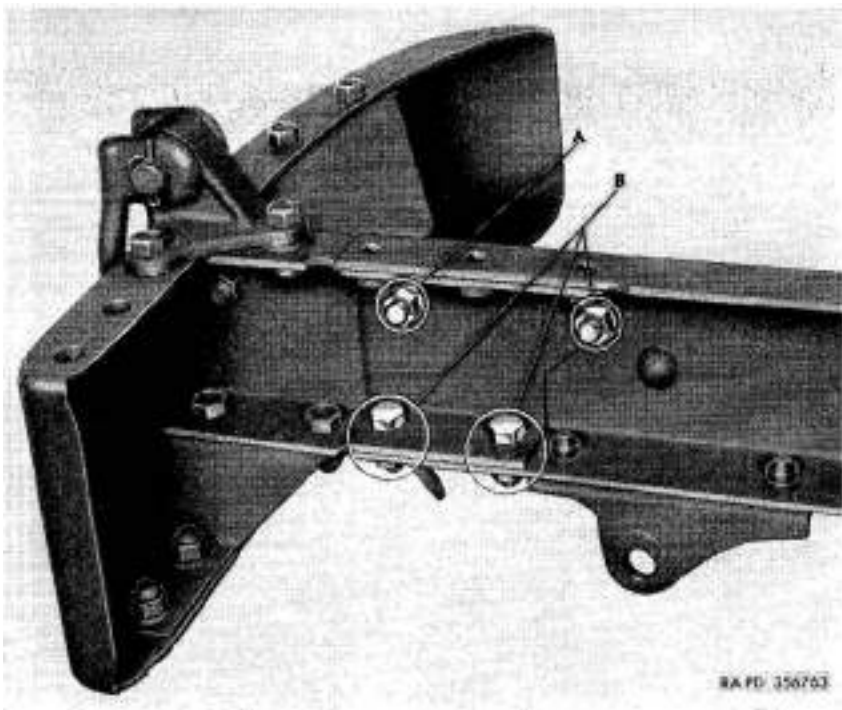

Figure 32. Front bumper assembly (w/winch) disconnect points.
- (1) Remove front bumper and lifting shackle assemblies (vehicles without winch) (five nuts, lock washers, plain washers, and cap screws, each side).
- (2) Remove right and left front bumpers complete with frame side rail extensions and lifting shackle assemblies (vehicles with winch) (four nuts, lock washers, and cap screws, each side) (A and B, *fig. 32*).
t. *Install Front Bumper* (fig. 32).
- (1) Install front bumper and lifting shackle assemblies (vehicles without winch) (four $\frac{1}{2}$ -20NF x $1\frac{1}{8}$ cap screws at side and bottom of frame side rails and one $\frac{1}{2}$ -20NF x $1\frac{3}{8}$ cap screw at lifting shackle, $\frac{1}{2}$ -inch plain washer between lifting shackle and frame, $\frac{1}{2}$ -inch lock washers, and $\frac{1}{2}$ -20NF nuts, each side).
- (2) Install right and left front bumpers, frame side rail extensions, and lifting shackles as assemblies (vehicles with winch) (three $\frac{1}{2}$ -20NF x $1\frac{1}{4}$ cap screws (B), one $1\frac{1}{2}$ -20NF x $1\frac{1}{2}$ cap screw (A) at upper front hole, $\frac{1}{2}$ -inch lock washers, and $\frac{1}{2}$ -20NF nuts, each side) .